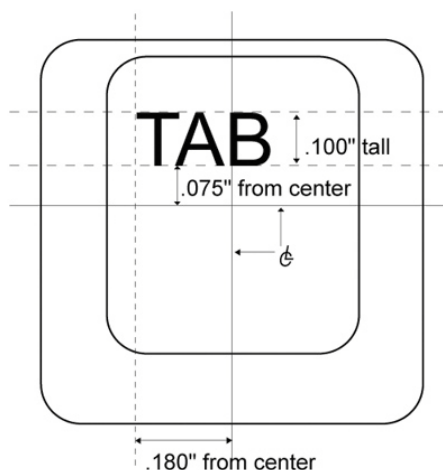

Figure 2
- Location of the image on the keycap needs to be defined in inches relative to the horizontal and vertical center of the key (Figure 2).